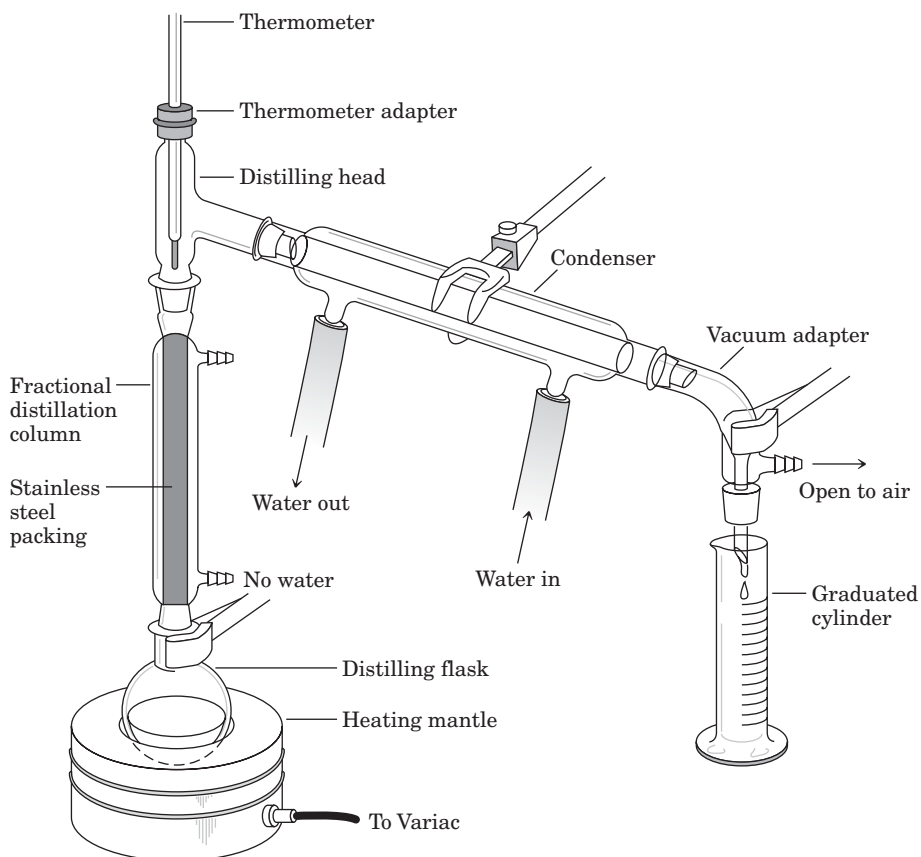

Figure 33.3
4. Obtain a distillation setup and assemble the glassware as shown in Figure 33.3. Use a small dab of silicone grease on all the standard-taper joints as you connect them.